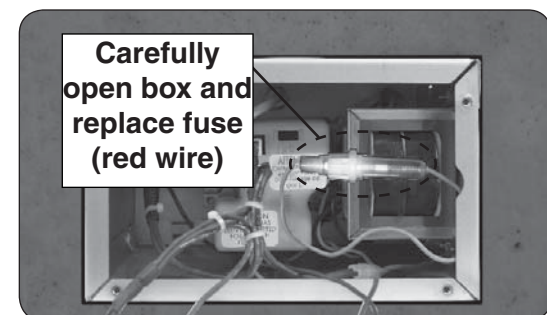

Fig. 37-4 Replace fuse
5. "Push in and twist" the fuse holder (red wire), exposing the fuse (see Fig. 37-4).